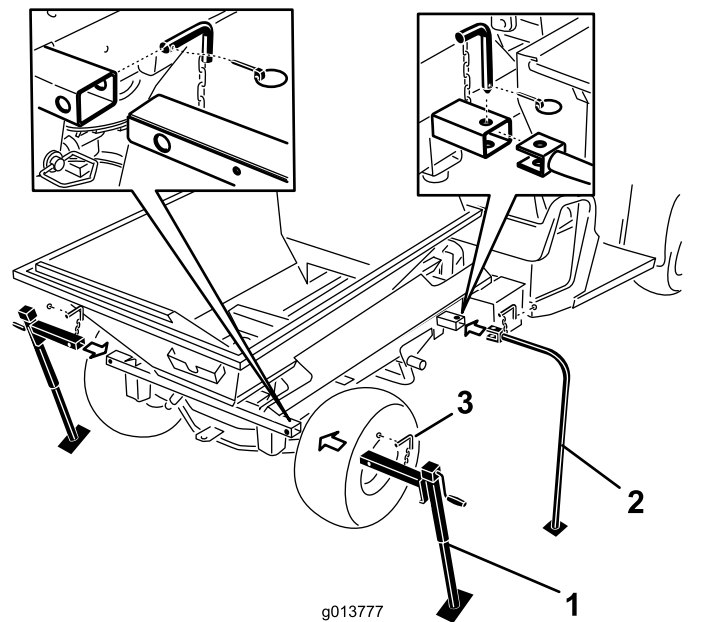

Figure 49
7. Insert the front storage legs and the rear jack stands into the machine tubes and secure them with the locking pins (Figure 49).